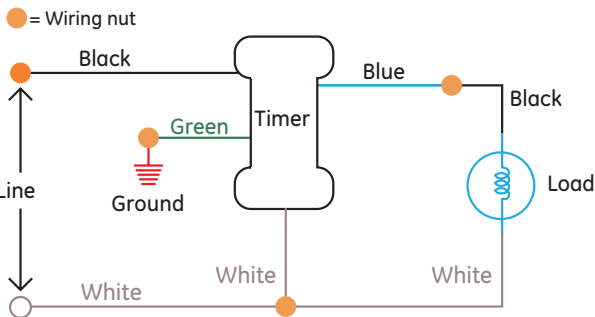
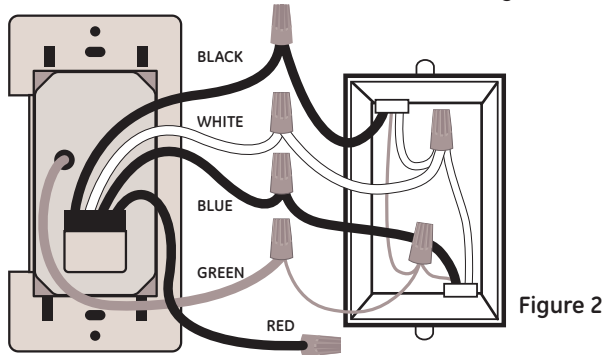

Figure 1
Figure 2
3. Connect the wires of the timer to the wall box as shown in Figure 1 and Figure 2 using the wire nuts provided.